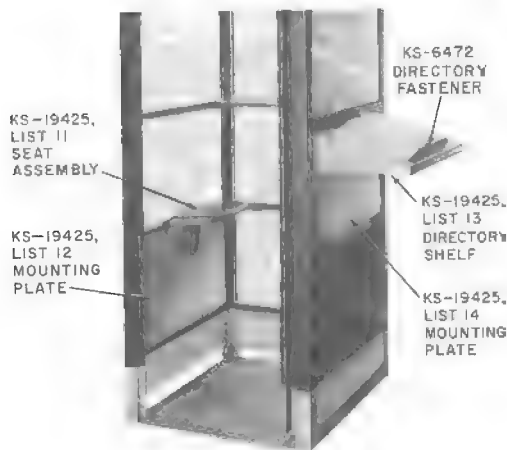

Fig. 12—KS-19425, List 11 Seat Assembly, KS-19425, List 13 Directory Shelf and Associated Mounting Plates
- 2.21** Refer to Fig. 12.
(c) **KS-19425, List 13 Directory Shelf (Fig. 12):**